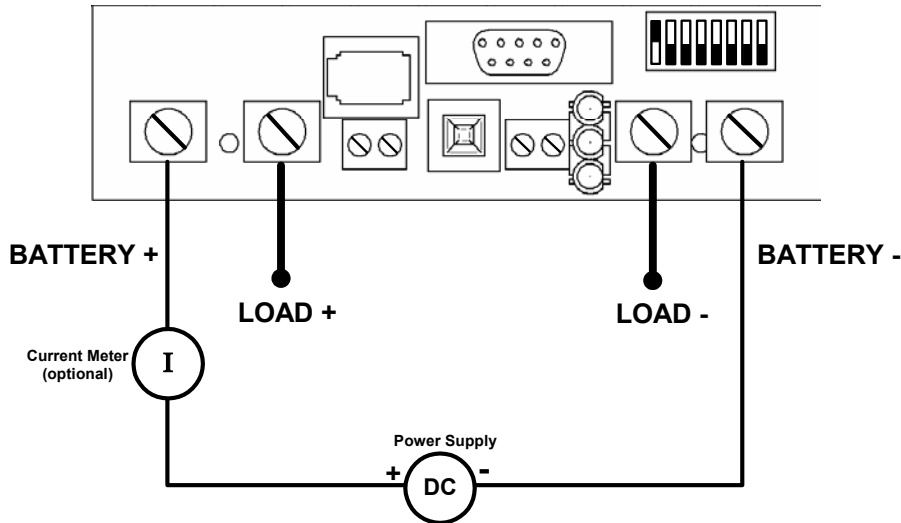

figure 4
1. Set DIP switch position #1 to the “ON” position, set all others to “OFF” as shown in figure 4.